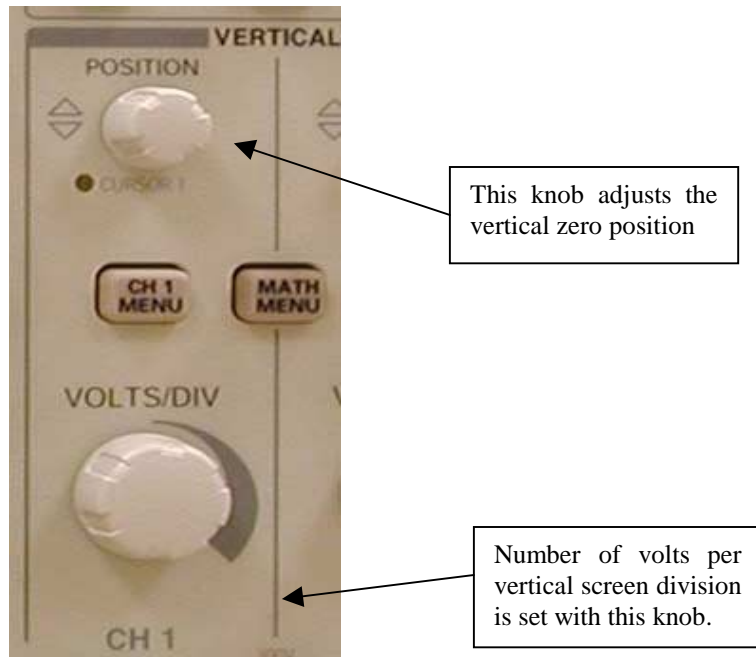

Figure 2. Main Controls for the vertical amplifier. The number of volts per division and the zero reference are set here.
- (1) If the vertical VOLTS/DIV knob (see Fig. 2) is set to 10, what is the largest amplitude sine wave that can be displayed on the oscilloscope screen? (Remember that a sine wave with amplitude  $A$  extends from  $-A$  volts to  $+A$  volts.)